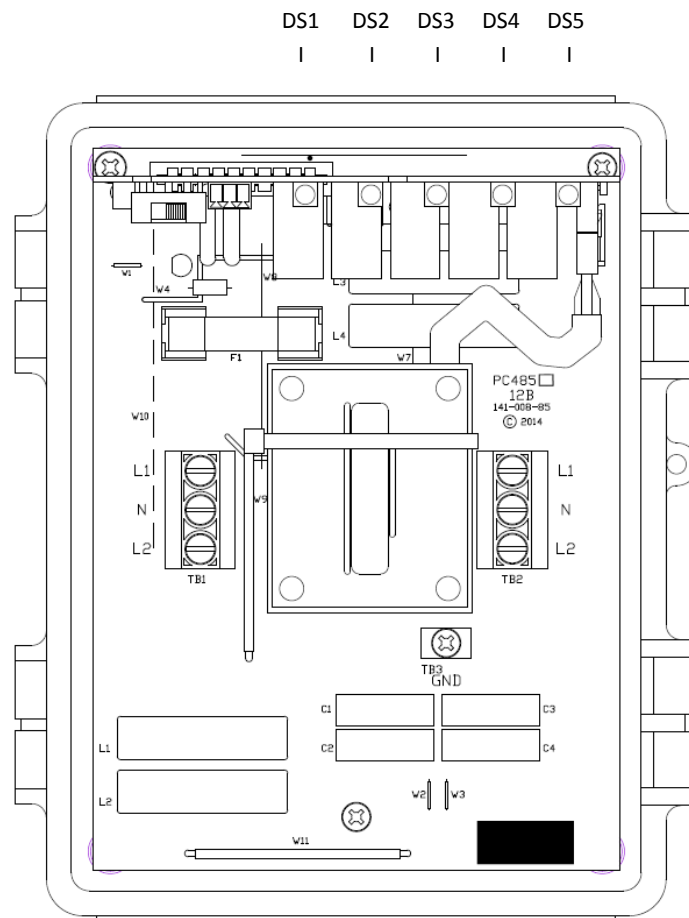

Figure 3: Front view with "-UFP" option
- Plug status board in as shown in figure 3. Note: Board is polarized and will only plug in one way – with the longer side toward the main board.
- b) Apply power and observe the following (See figure 3):
- 1) The green LED on the main board indicates that the cartridge fuse(s) is (are) functional when power is present. Refer to figure 3.
- 2) On the status board, there are 4 or 5 LEDs depending on model. On the **standard** status board, from left to right, these are numbered **DS5, DS4, DS3, DS2, and DS1**. On the **optional** status board (-UFP models), from left to right these are numbered **DS1, DS2, DS3, DS4, and DS5**. Refer to figure 3 above.
If there exists a reduced protection scenario in the protector (one or more lights extinguished), the beeper will sound. Beeper mode is shipped from the factory in “On” position. See figure 3. If you do not want the beeper to sound during a reduced protection situation, then remove power to protector, and slide the mute switch, located on the top edge of the status board, to the left position. Reapply power.
The remote relay terminal block is located on the top edge of the status board, just to the right of the mute switch. See figure 3. **Only the outer two contacts (Common and Normally Closed) are used.** Do not use center port. See figure 3 below.
If the protection module is damaged, it will need to be replaced along with the fuses on the main board. Refer to figure 3.
- e. Plug status board in as shown in figure 3. Note: Board is polarized and will only plug in one way – with the longer side toward the main board.